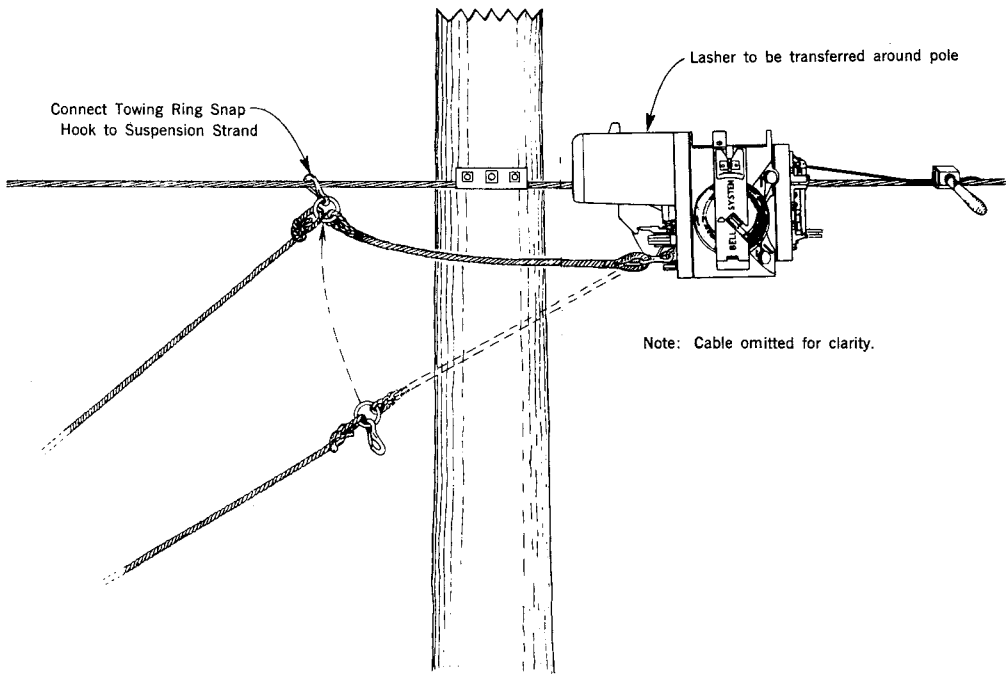

Fig. 25—Method of D Cable Lasher Transfer
- (1) Clamp the lashing wire to the strand.
- (2) Pull out sufficient wire for terminating or lashing past a pole.
- (3) Open the pulling plate gate.
- (4) Move the lasher forward or backward along the strand until the drum locks.
- (5) Connect the towing ring snap hook to the suspension strand on the other side of the pole and open the rear cable lifter (Fig. 25).
- (6) Press down on the strand tension roller lever and turn it clockwise to a position crosswise to the strand. This unlocks the lasher from the strand.
- (7) Raise the lasher from the strand and place it on the strand in the next span.
- (8) Disconnect the towing ring snap hook from the strand.
- (9) Before lashing the next span, check the amount of lashing wire remaining in the lasher. When a coil has been used to the point where the thickness of the remaining portion is about 1/4 inch, approximately 200 feet of wire is left. If there is not enough wire remaining in the coil to lash the next span, wind the free end of the lashing wire around the upper snubbing pulley so it does not project or dangle from the lasher (unless the coil is to be replaced at this time).